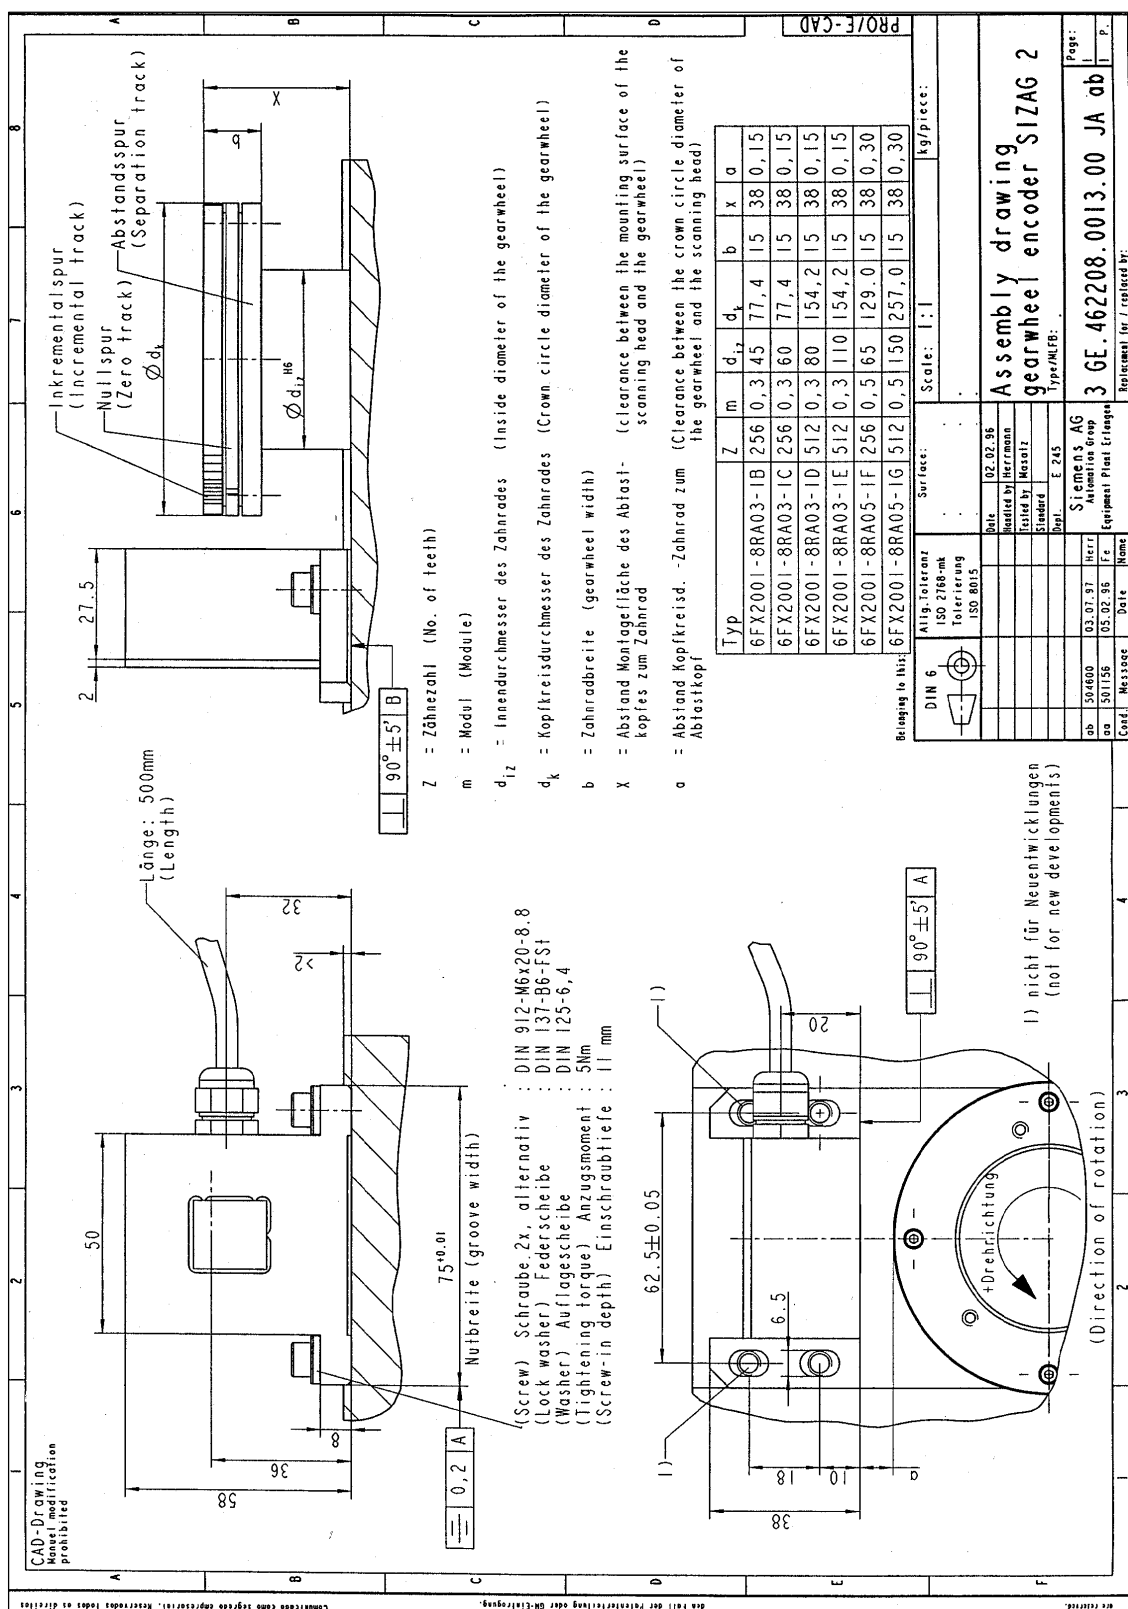

Fig. 2-5 Mounting drawing, toothed-wheel encoder SIZAG 2
- It must be ensured that the incremental track and zero track are correctly arranged (refer to the assembly drawing, Fig. 2-5).